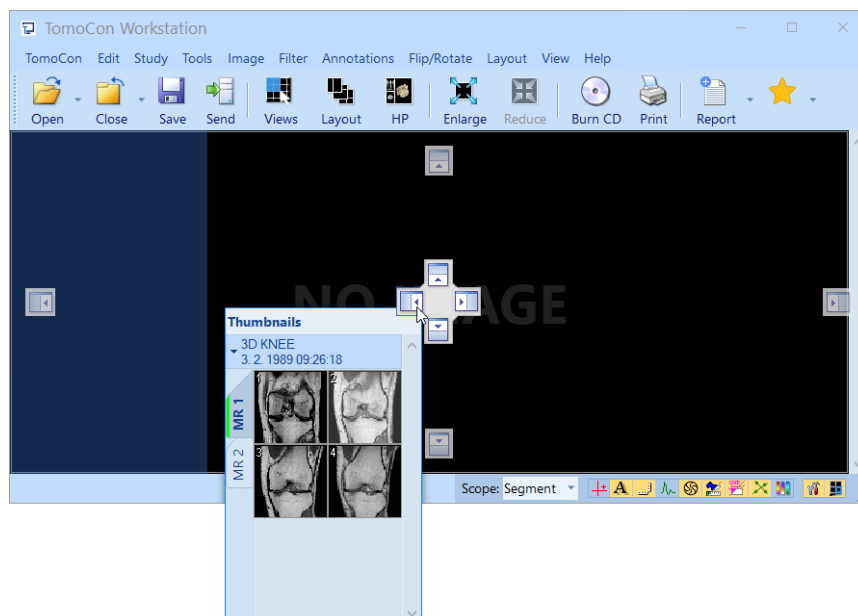

Figure 23 – Docking thumbnails palette to the left edge of TomoCon
2. Move the panel over the left docking navigator . A new docking position for the thumbnails palette will be displayed in translucent blue (see Figure 23).